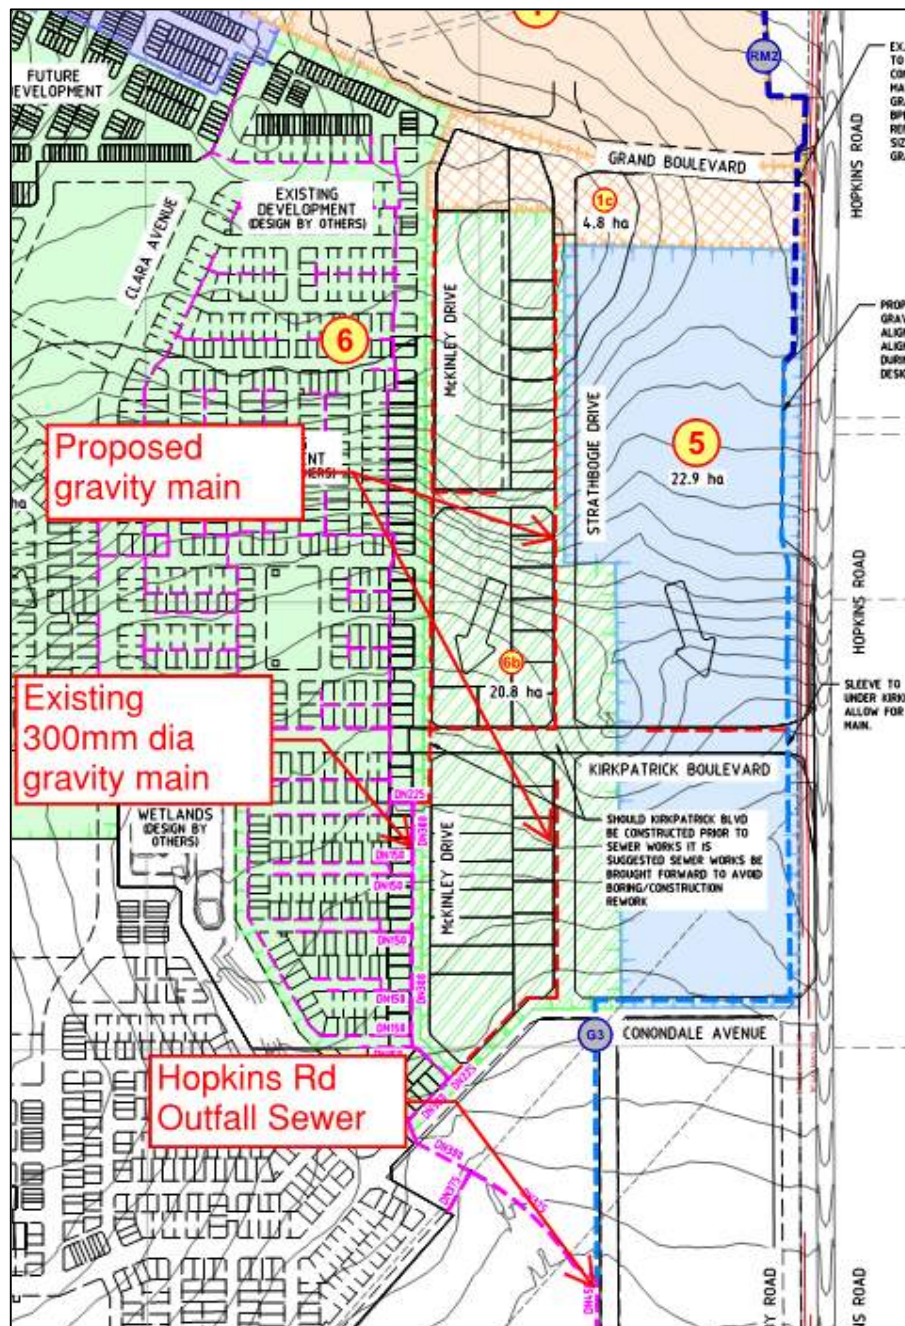

Figure 14: Proposed Sewer Layout
The responsible authority for sewerage facilities is Western Water (WW). Please refer to the sewer concept plan in Figure 14 which highlights the proposed sewer network. The delivery of the Hopkins Rd Outfall Sewer is key to providing a sewer outfall for the proposed Hopkins Road Business Precinct. The proposed gravity sewer network will be extended from the Hopkins Rd Outfall sewer and existing 300mm dia branch sewer along McKinley Rd to service the site.
Please refer to the sewer concept plan in Figure 14 which highlights the proposed sewer network. As noted below, the delivery of the Hopkins Rd Outfall Sewer is key to providing a sewer outfall for the proposed Hopkins Road Business Precinct. The proposed gravity sewer network will be extended from the Hopkins Rd Outfall sewer and existing 300mm dia branch sewer Along McKinley Rd to service the site. It is not anticipated that any temporary sewer outfall works will be required should the Hopkins Rd Outfall Sewer project proceed.